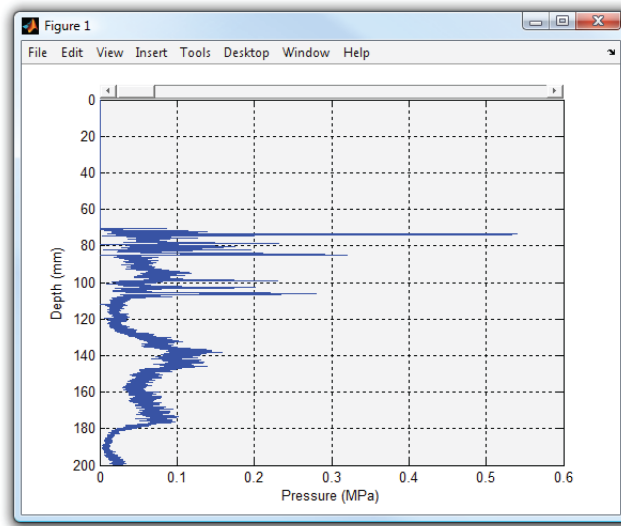

Figure A.2: An example Snow MicroPen force profile produced by SMPtoolkit.
After opening a profile, plotting this profile is accomplished by choosing **Plot** from the **Analysis** menu. Selecting this option will open a plot with depth (mm) on the y-axis and either Force (N), Pressure (MPa), or Temperature (C) on the x-axis. The type of plot that is produced is controlled by the settings in **Preferences** menu, see Section A.5. An example, Depth–Force plot is shown in Figure A.2.
The zooming location of the plot is dictated by the last position you clicked the mouse. For example, if you left-click the mouse around the 100 mm point in Figure A.2 and then slide the slider to about 75% zoomed the y-axis will zoom keeping the 100 mm point in the center, as shown in Figure A.3.
Figure A.3: An example of the zooming capabilities of the SMPtoolkit plotting function. This plot is identical to Figure A.2 but is zoomed in to show detail of the profile between 80 mm and 120 mm depths.